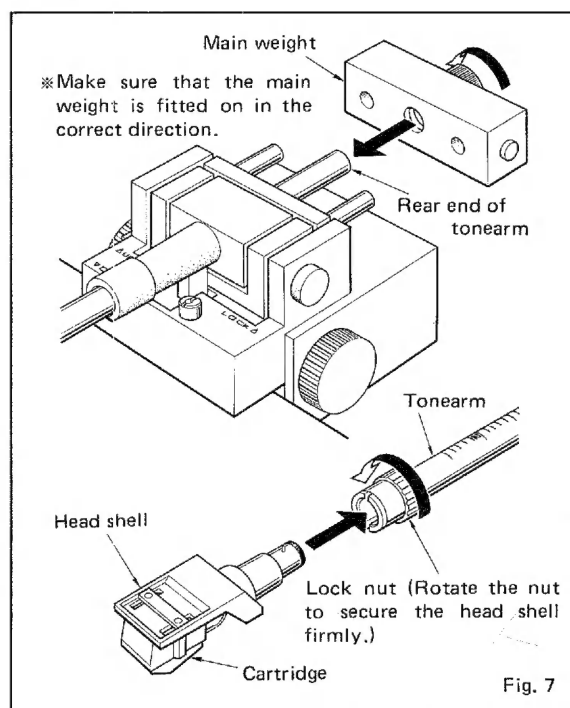

Fig. 7
1. Push the main weight into the tonearm from the rear, while turning the black knob of the main weight in the direction of the arrow as shown in Fig. 7.